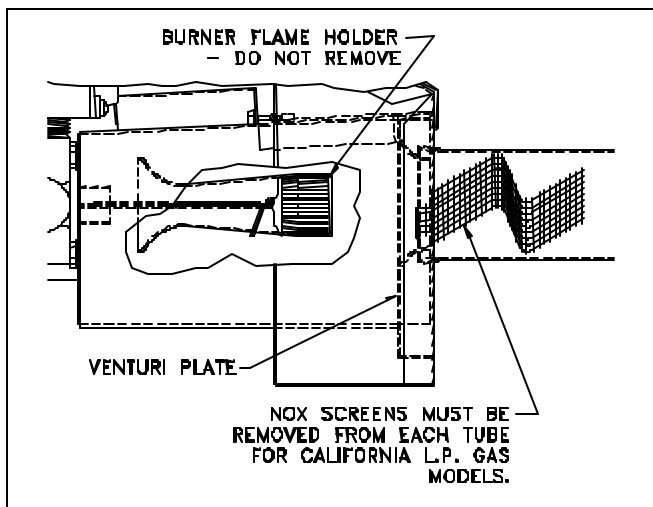

Figure 30. California NOx Screen Removal.
NOTE: NOx reducing screens must be removed from each tube of California NOx furnaces when converting to propane (LP) gas. See Figure 30.